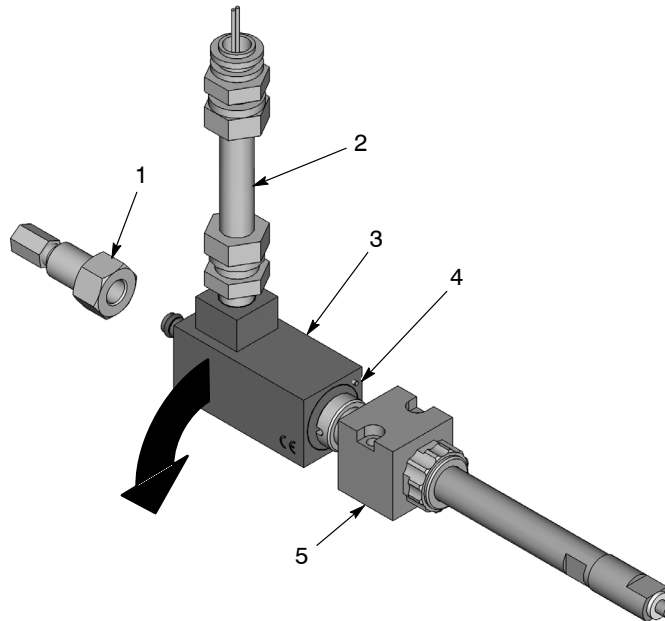

Figure 3 Conduit Orientation
1. See Figure 3. Unscrew the tubing adapter (1) from the spray gun.
2. Pull the coil housing (3) away from the body (5) about 1.5 mm ($\frac{1}{16}$ in.), until the pin (4) in the coil housing is clear of the hole in the body.
3. Rotate the coil housing until the conduit (2) is at the desired position. Push the coil housing and seat body together, making sure the coil pin fits into the hole in the body.